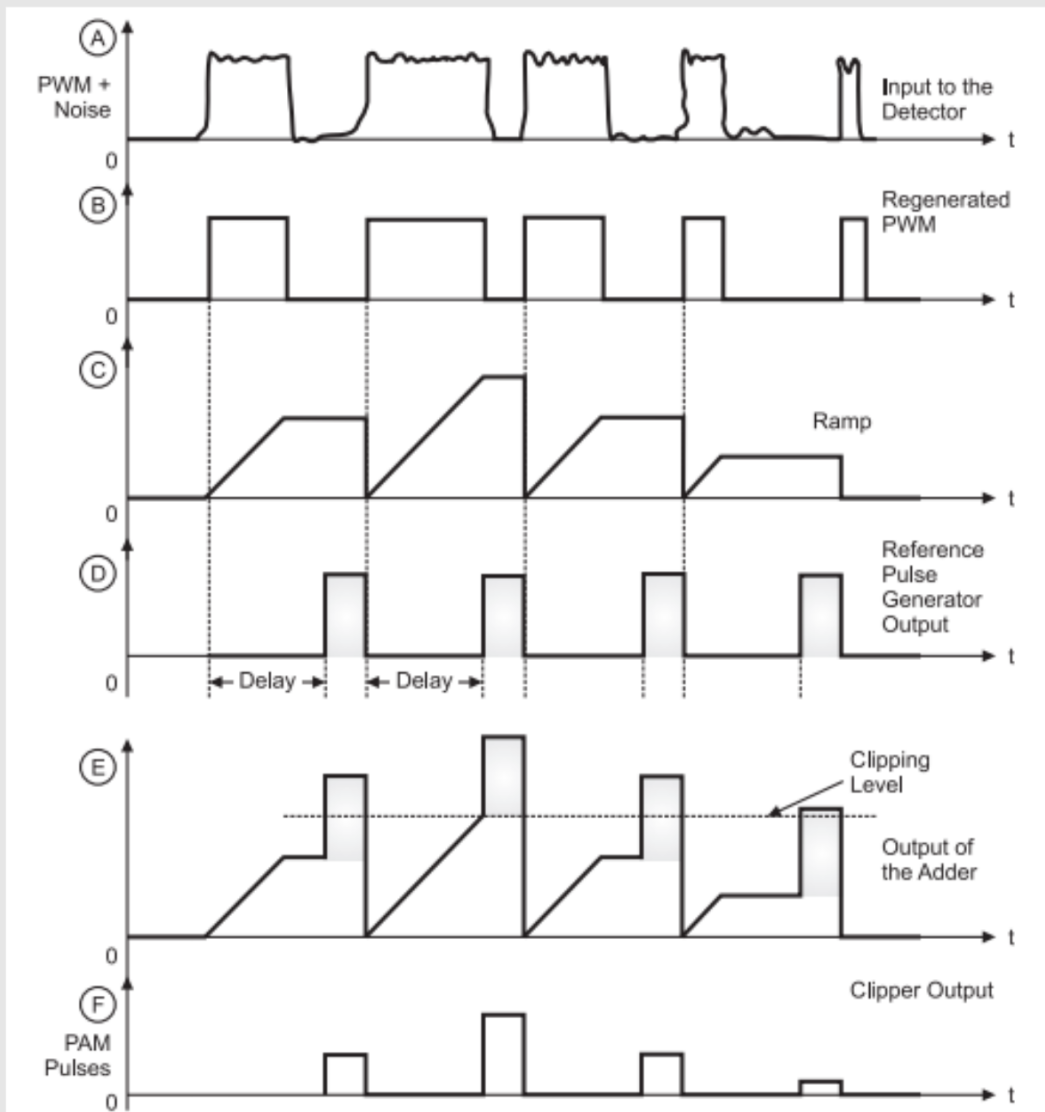

Fig.4 : Waveforms for PWM detection circuit
- A low pass filter is used to recover the original modulating signal back from the PAM signal. The waveforms for this circuit have been shown in fig.4.